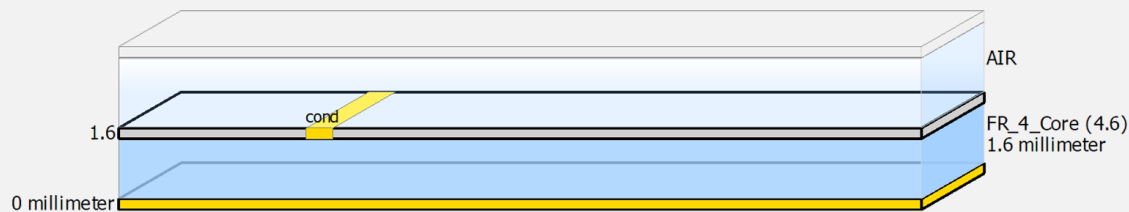

Figure 28. Substrate definition
- Go to the **EM Setup** window. In the Substrate section, click **New**. Create a new substrate with the 25 mil Alumina as the template. Define the substrate with the parameters (substrate height, ϵ_r , and TanD) from step 1. Define the material as Copper (select it from **Add from Database** list). The definition is shown in Figures 28, 29, and 30.